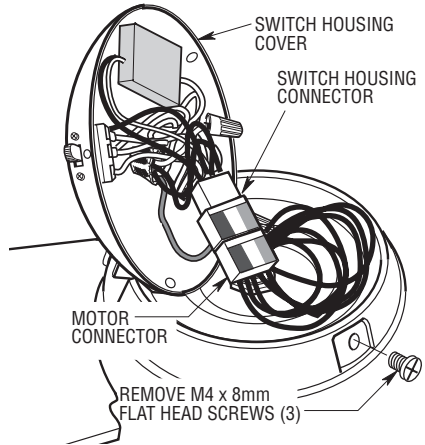

Figure 2
5. Remove the three M4 x 8mm flat head screws from the switch housing adapter plate (Figure 2). Retain the screws for future installation.
6. Engage the connector of the switch housing assembly with the motor connector (Figure 2). The two connectors are keyed and color-coded and must be mated correctly (color-to-color) before they can be engaged. Make sure the connector latch closes properly.